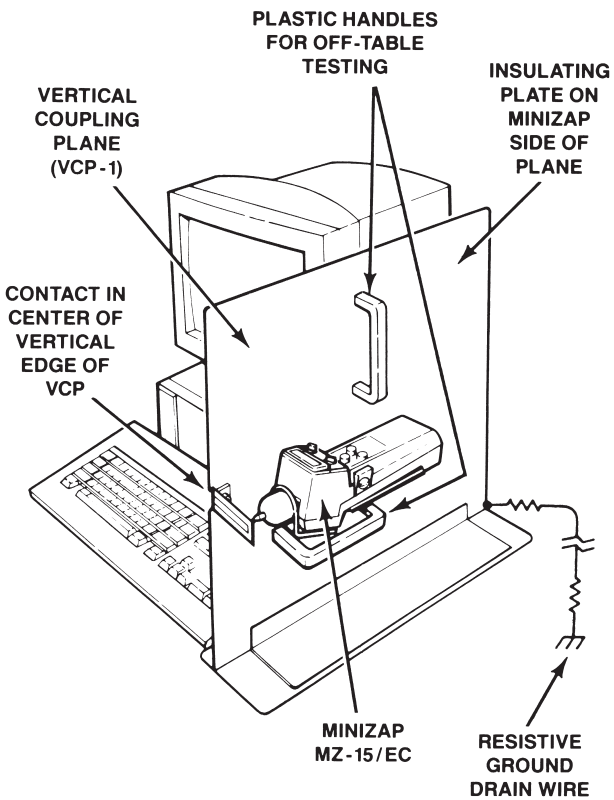

Figure 6
**VERTICAL COUPLING PLANE:** Standard simulations for indirect ESD are required by IEC 61000-4-2, which specifies use of a 0.5m x 0.5m Vertical Coupling Plane or VCP (Figure 6). When the MiniZap does an ESD to the plane, it simulates a discharge between two bodies adjacent to the equipment being tested.